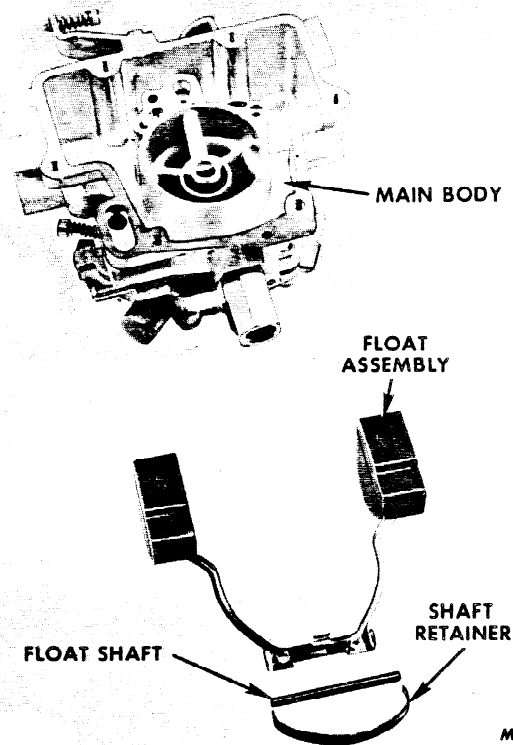

FIG. 25 Remove or Install the Float Assembly
2. Remove the fuel inlet valve and fitting assembly; remove gasket. Remove spring float shaft retainer, float shaft and float (Figure 25).